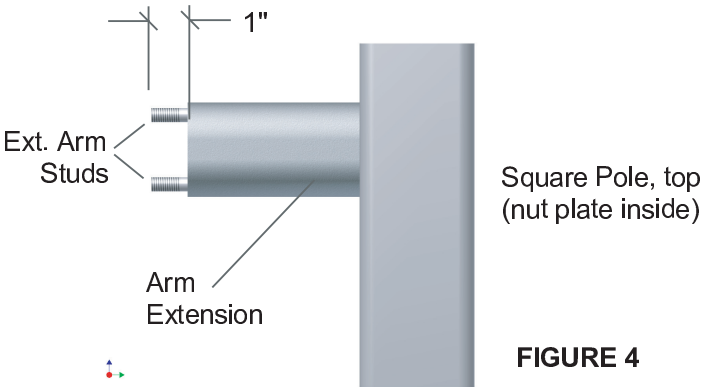

FIGURE 4
C. USING EXTENSION ARM ON SQUARE POLE - FIGURE 4
- 3. With nut plate inside pole, thread extension arm studs thru top and bottom extension arm holes, then thru top and bottom pole holes, then into nut plate. See Figure 4.